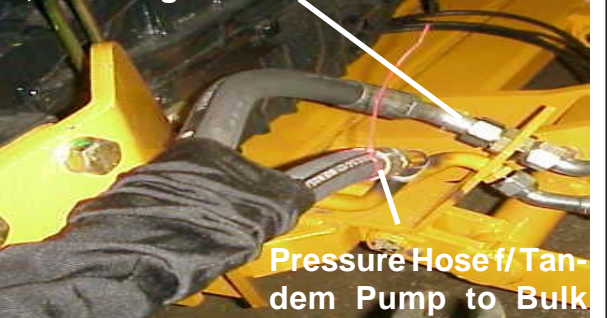

Figure 17
5. Insert Cables up through Boot Cover. Mark the cables as to which is which on the control valve as they need to be connected in the same order on the inside of the cab as they are connected to the control valve (See Figure 17)